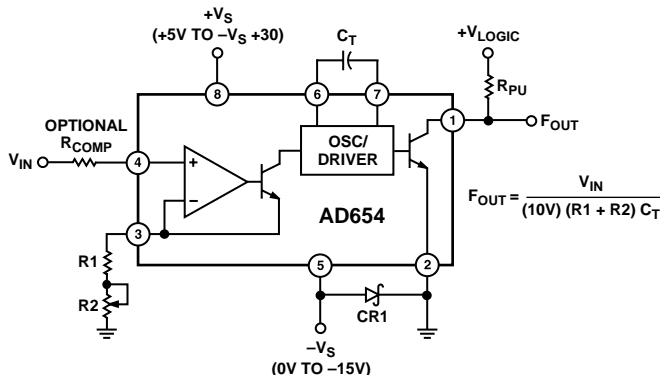
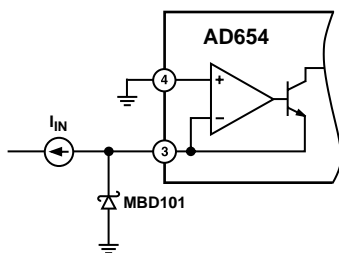

Figure 1. Standard V-F Connection for Positive Input Voltages
Figure 5. Input Protection
The AD654's block diagram appears in Figure 1. A versatile operational amplifier serves as the input stage; its purpose is to convert and scale the input voltage signal to a drive current in the NPN follower. Optimum performance is achieved when, at the full-scale input voltage, a 1 mA drive current is delivered to the current-to-frequency converter (an astable multivibrator). The drive current provides both the bias levels and the charging current to the externally connected timing capacitor. This "adaptive" bias scheme allows the oscillator to provide low nonlinearity over the entire current input range of 100 nA to 2 mA. The square wave oscillator output goes to the output driver which provides a floating base drive to the NPN power transistor. This floating drive allows the logic interface to be referenced to a level other than $-V_S$.
In the connection scheme of Figure 1, the input amplifier presents a very high (250 MΩ) impedance to the input voltage, which is converted into the proper drive current by the scaling resistors at Pin 3. Resistors R1 and R2 are selected to provide a 1 mA full-scale current with enough trim range to accommodate the AD654's 10% FS error and the components' tolerances. Full-scale currents other than 1 mA can be chosen, but linearity will be reduced; 2 mA is the maximum allowable drive. The AD654's positive input voltage range spans from $-V_S$ (ground in sink supply operation) to four volts below the positive supply. Power supply rejection degrades as the input exceeds $(+V_S - 3.75 \text{ V})$ and at $(+V_S - 3.5 \text{ V})$ the output frequency goes to zero.
As indicated by the scaling relationship in Figure 1, a 0.01 μF timing capacitor will give a 10 kHz full-scale frequency, and 0.001 μF will give 100 kHz with a 1 mA drive current. Good V/F linearity requires the use of a capacitor with low dielectric absorption (DA), while the most stable operation over temperature calls for a component having a small tempco. Polystyrene, polypropylene, or Teflon* capacitors are preferred for tempco and dielectric absorption; other types will degrade linearity. The capacitor should be wired very close to the AD654. In Figure 1, Schottky diode CR1 (MBD101) prevents logic common from dropping more than 500 mV below $-V_S$. This diode is not required if $-V_S$ is equal to logic common.
The AD654 was designed to be used with a minimum of additional hardware. However, the successful application of a precision IC involves a good understanding of possible pitfalls and the use of suitable precautions. Thus $+V_{IN}$ and R_T pins should not be driven more than 300 mV below $-V_S$. Likewise, Logic Common should not drop more than 500 mV below $-V_S$. This would cause internal junctions to conduct, possibly damaging the IC. In addition to the diode shown in Figures 1 and 2 protecting Logic Common, a second Schottky diode (MBD101) can protect the AD654's inputs from "below $-V_S$ " inputs as shown in Figure 5. It is also desirable not to drive $+V_{IN}$ and R_T above $+V_S$. In operation, the converter will exhibit a zero output for inputs above $(+V_S - 3.5 V)$. Also, control currents above 2 mA will increase nonlinearity.